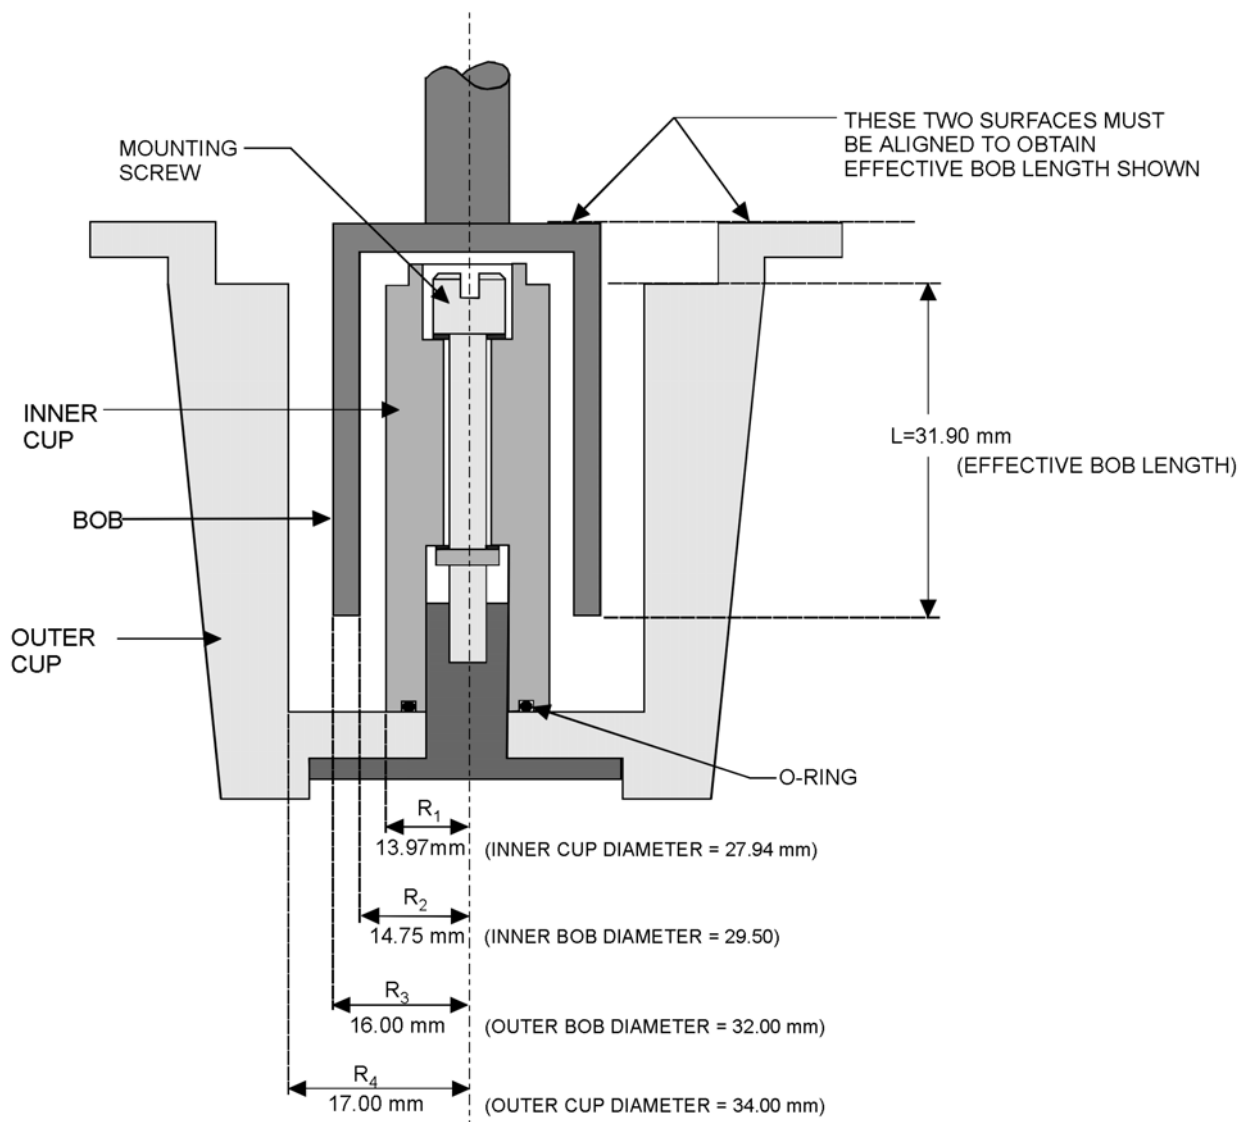

Figure 4-16. Double Wall Couette
1. Assemble the lower tool (cup) by installing the inner cup into the outer cup using the mounting screw provided (Figure 4-16). Make sure the o-ring is present, clean, and free of defects.
Variables: L = length (mm) W = width (mm) T = thickness (mm) R = radius (mm) H = height (mm) G_c = gravitational constant = 980.7 cm/s² β = cone angle R_B = radius of the bob R_C = radius of cup For double wall Couette refer to Figure 4-16 for definition of R_1, R_2, R_3, R_4